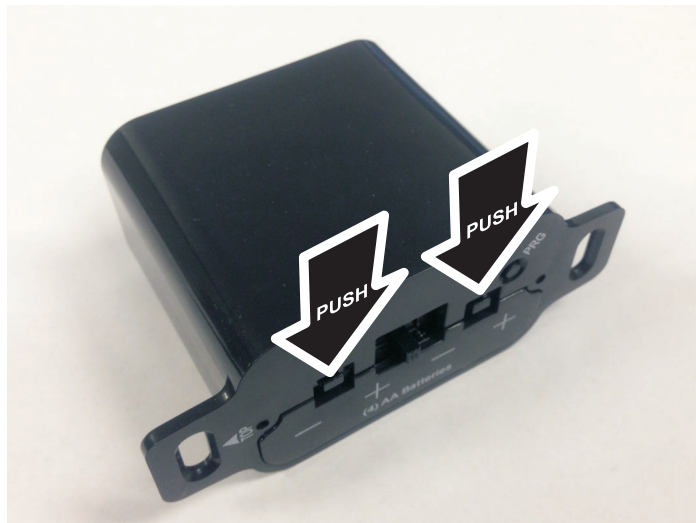
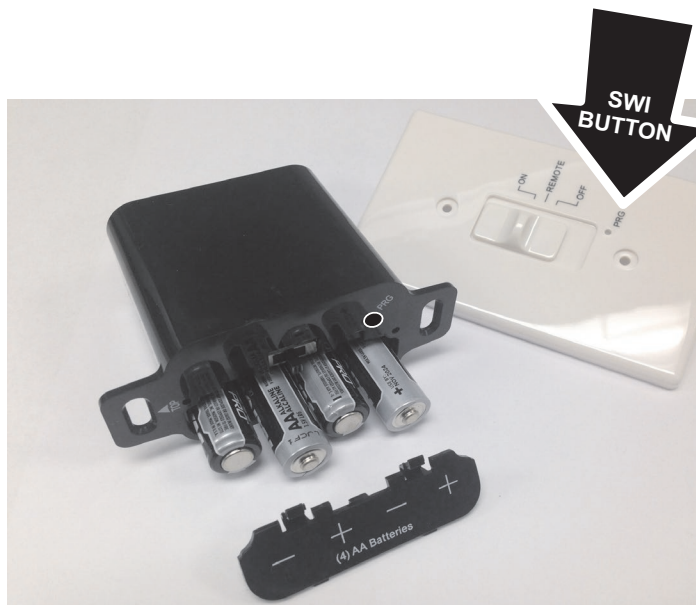

Figure 74
Figure 75
1. Remove the wall cover. Open the wall mounted battery back-up holder. **See Figure 74.** Install the four AA batteries into the wall mounted battery back-up holder then reinstall the cover. **See Figure 75.**
3. Set the wall remote slide switch to the REMOTE position. **See Figure 75.**
4. Press and release the SWI button on the wall control with a paper clip and the IFC module will beep three times to indicate the IFC module is ready to synchronize with the transmitter within ten seconds. **See Figure 75.**